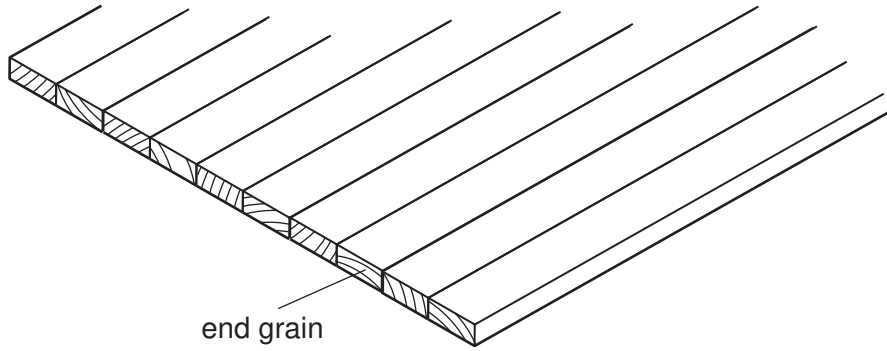

Fig. 3
- (e) A wooden top is to be fitted to the stool. Fig. 3 shows the end grain for the top. Why the material is arranged in this way.